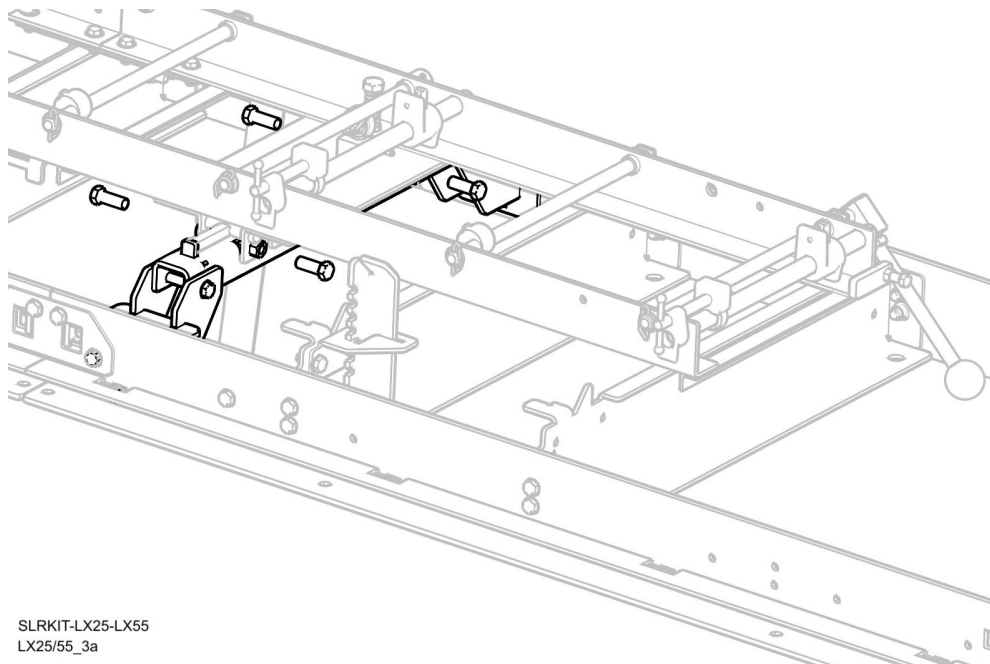

FIG. 4-4
4. Secure SLR with the bolts in front, FIG. 4-4